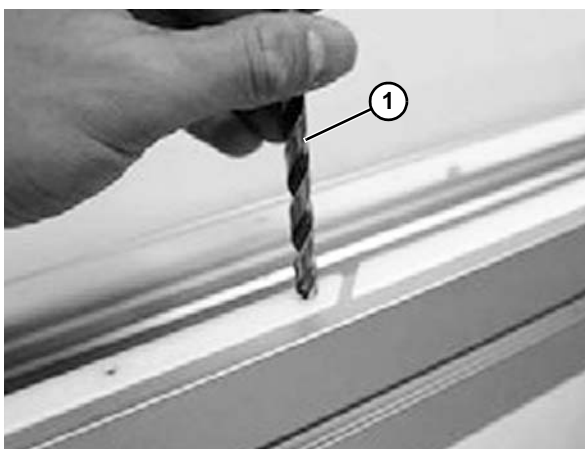

Figure 39
2. Use a bigger drill bit or countersink bit (**Figure 39, item 1**) to deburr and countersink the holes. Also make sure that there are no metal filings left underneath the slide rail.